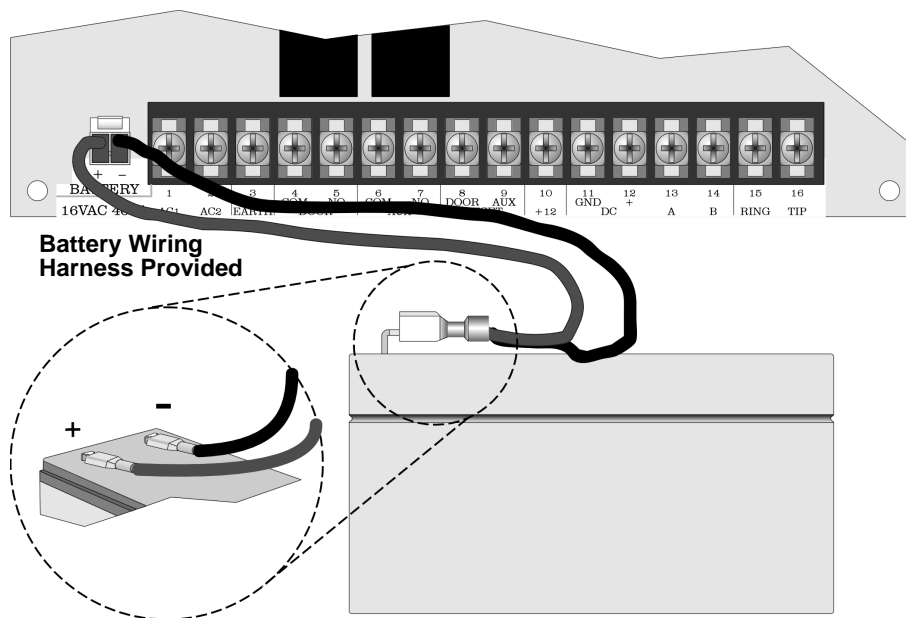

Figure 3-7 Backup Battery Connection
1. Connect the black battery cable to the minus (-) terminal of the battery. (See Figure 3-7 for battery cable location.)